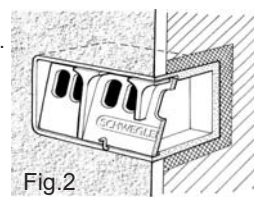

Fig. 2
b.) Installed within brick or concrete walls using insulating material (not supplied) to protect against the transfer of cold temperatures (Fig. 2).